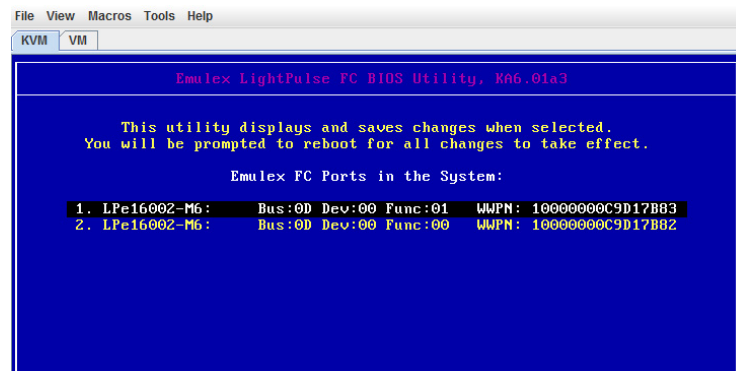

Figure 18 Selecting the HBA adapter port
1. Select the adapter port you want to configure, as shown in Figure 18. (In a single path configuration, this should be the HBA port zoned to storage).
2. If the link status is shown as **Link UP**, select **Enable/Disable Boot from SAN** to enable the HBA BIOS, as shown in Figure 18.